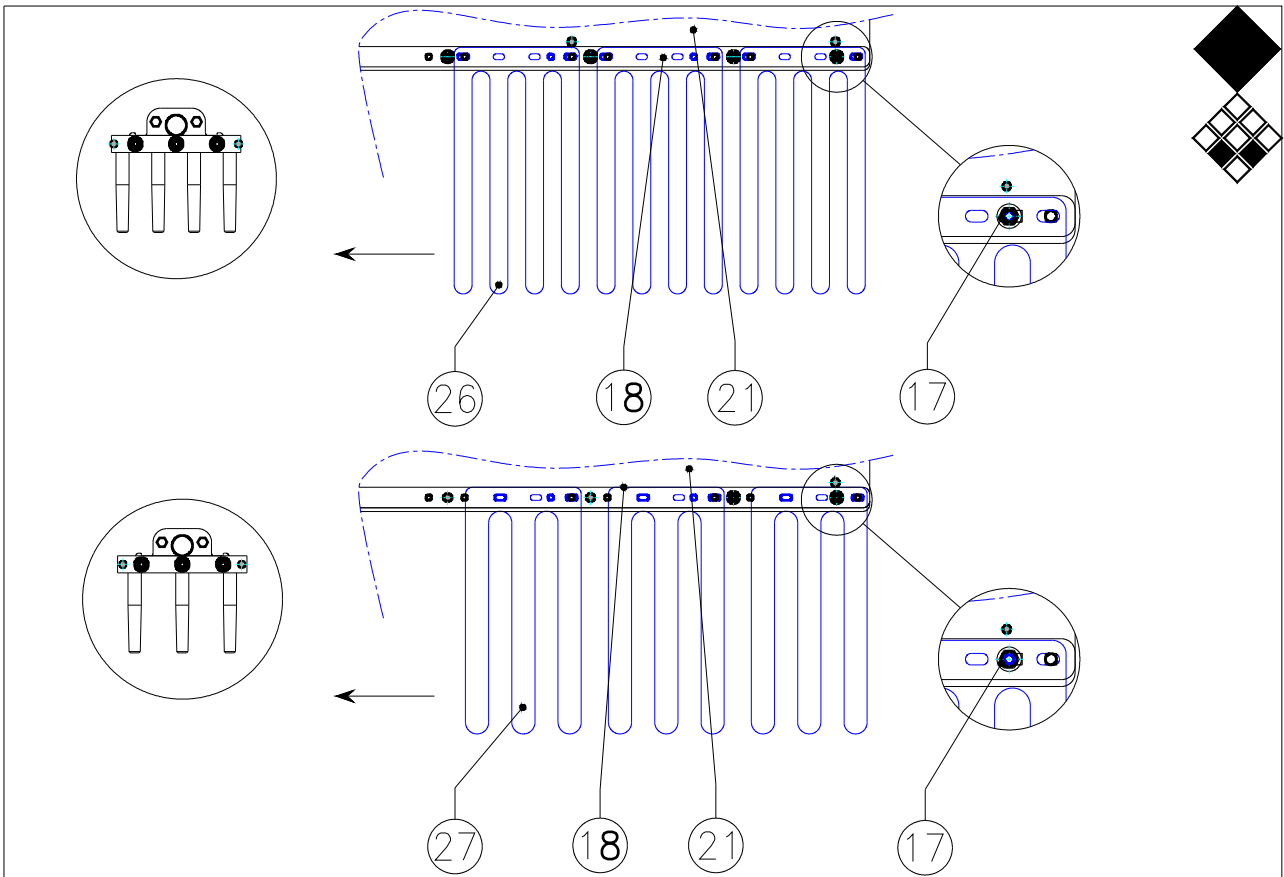

fig.8
3.1 Mounting the fingers for the 3- or 4-tine tineholder (fig.8)